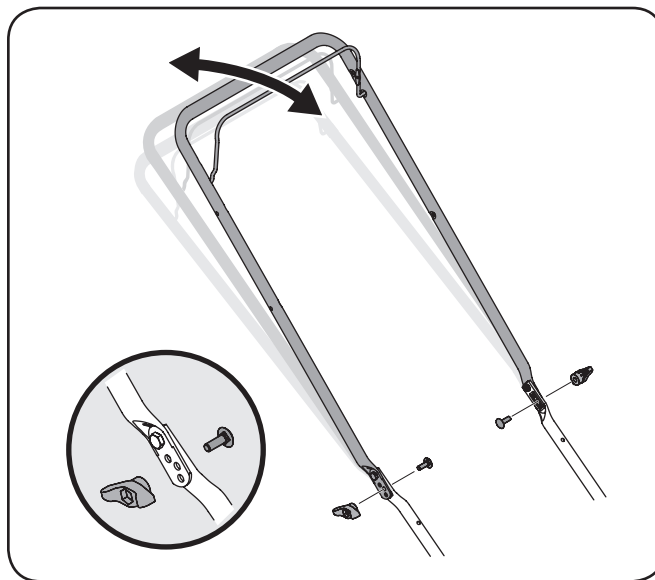

Figure 3-11
1. Remove wing nuts and carriage bolts from handle. See Figure 3-11.
2. Position the handle in one of the three positions that is most comfortable. See Figure 3-11 inset.